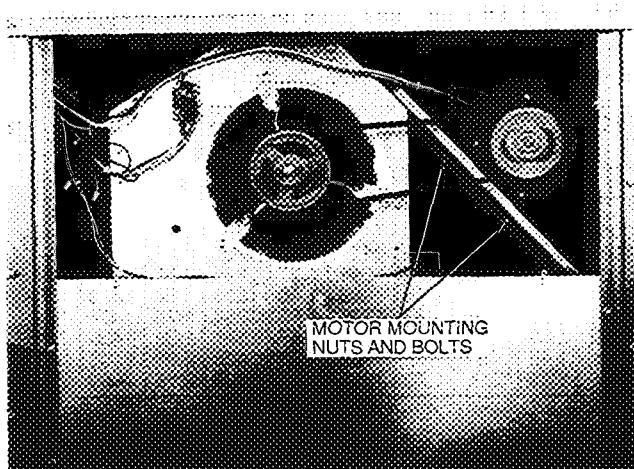

Fig. 11 — Belt Drive Motor Mounting
2. Loosen belt by loosening fan motor mounting nuts. See Fig. 11.